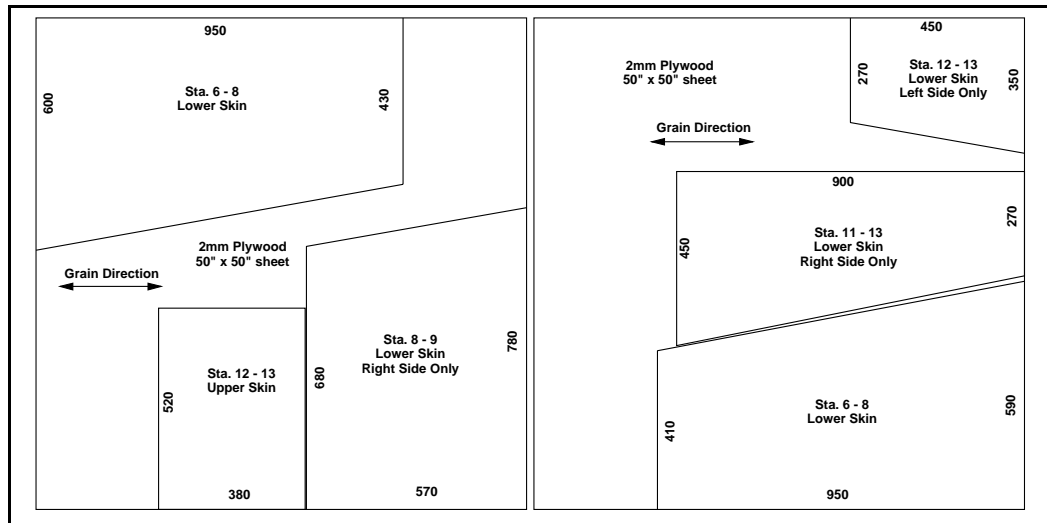

Figure 5
- ❑ Cut two 50" x 50" sheets of 2mm birch plywood as shown in Figure 5.